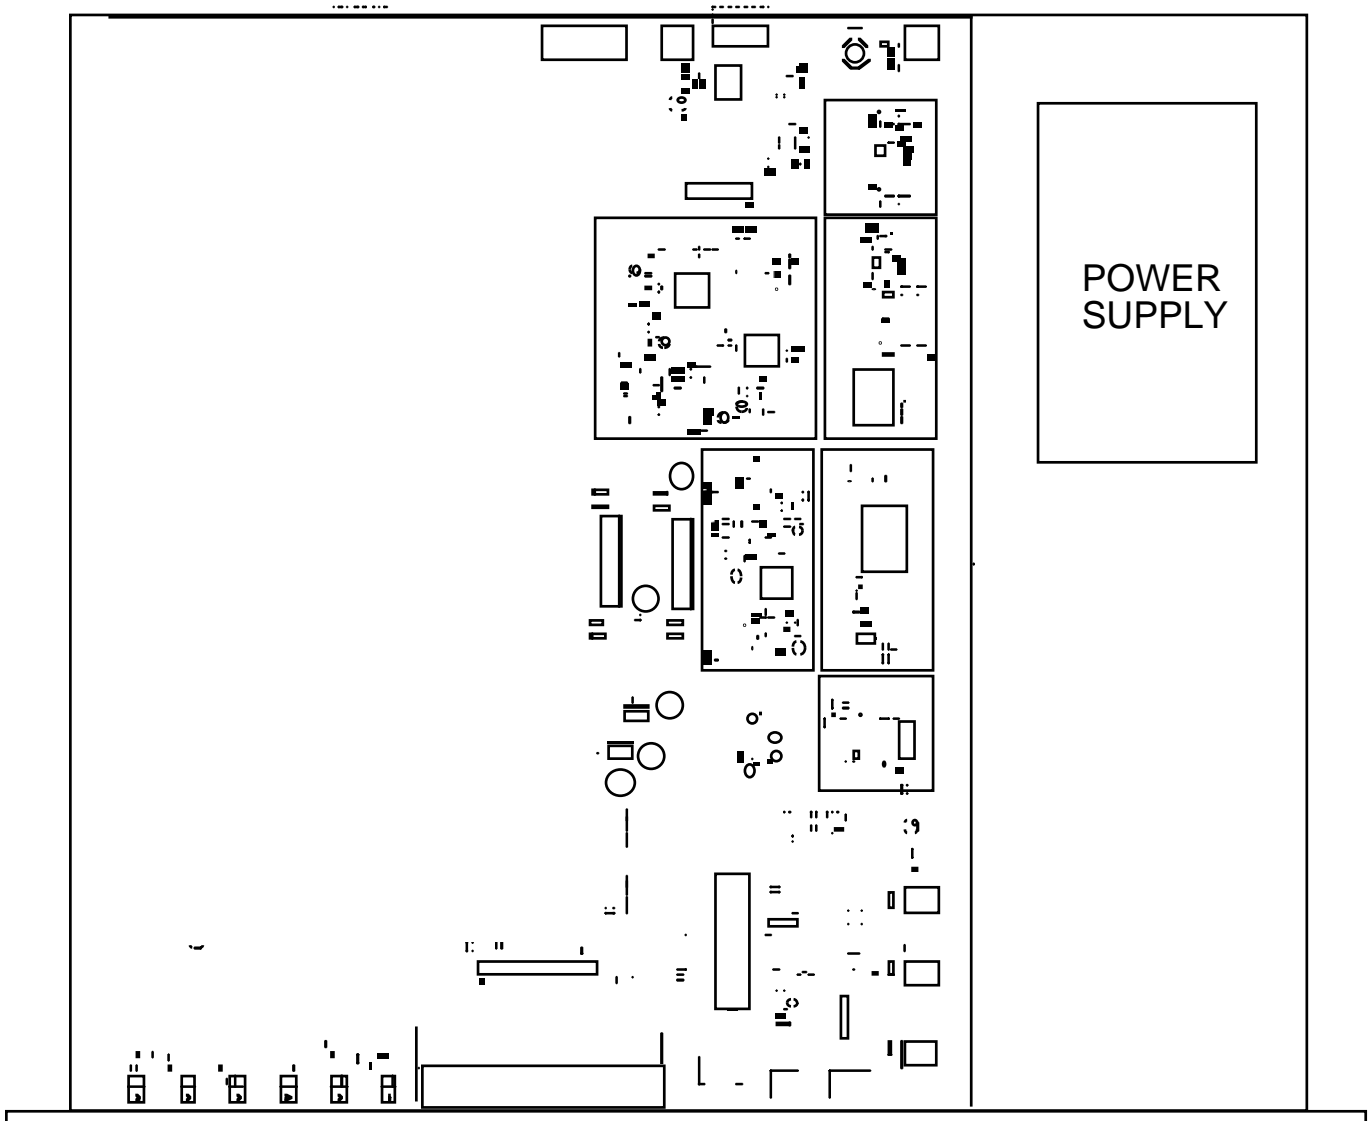

FIGURE 2.1 2016-03 Mechanical Assembly
2.1 Mechanical - The 2016-03 consists of one RF/Controller PCB housed in a 1 RU (1 3/4 inch high) by 16 inch deep chassis. A switching, ± 12 , +24, +5 VDC power supply provides power for the assemblies. The 2016-03 can be secured to a rack using the 4 holes on the front panel. Figure 2.1 shows how the 2016-03 is assembled.
7. Option -L only - To insert LNB +24 VDC on the RF center pin install 0.5A fast blo fuse in F1 and check that DS8 lights yellow (Figure 2.1)